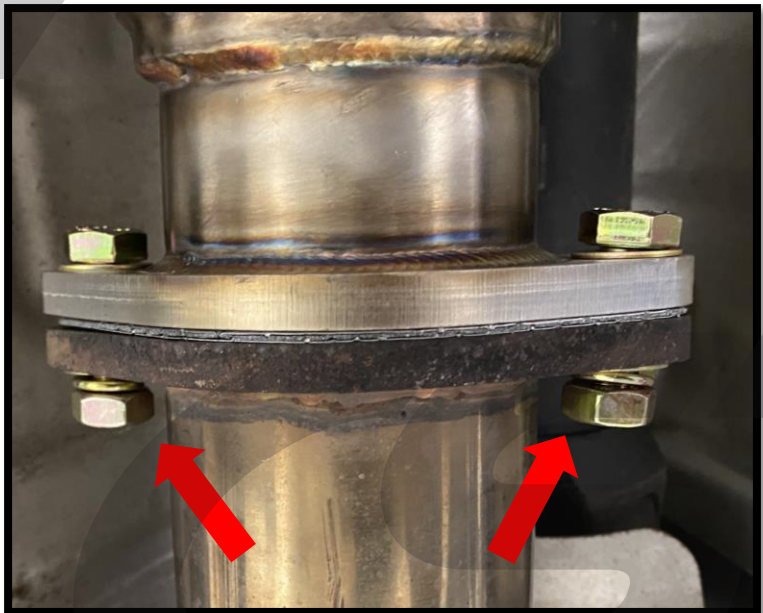

Figure 10d
- e) Secure the downpipe to the midpipe using the supplied gasket and hardware. Keep the bolts very loose to allow for plenty of movement, they will be tightened later. Use the hardware stack as shown in **Figure 10d**, with flat washers against the flanges and the lock washer against the nut.